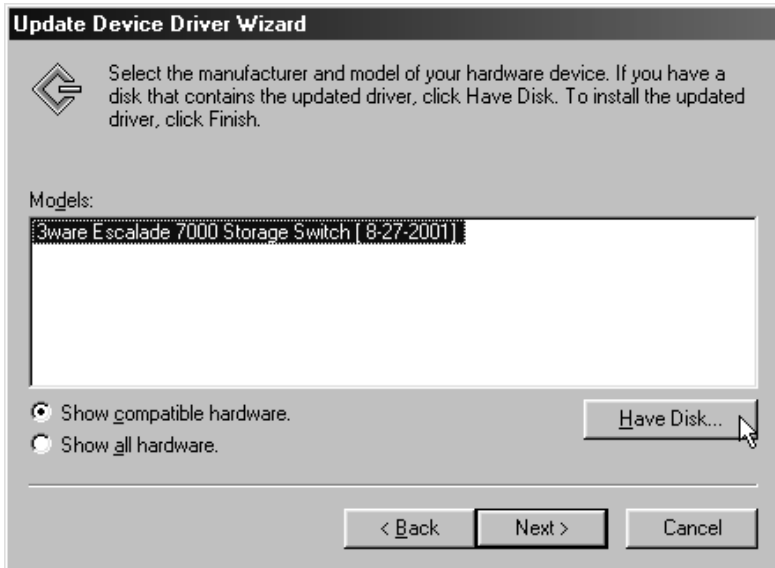

Figure 30. Select a Device Driver Display
- 2 The **Select a Device Driver** dialog appears (see Figure 30). Click on the **Have Disk...** button.